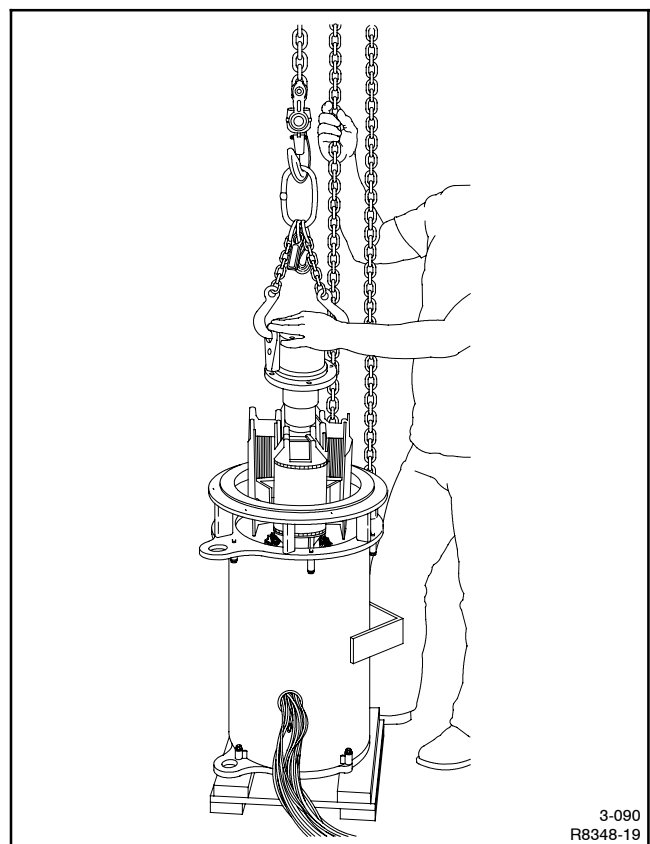

Figure 4-18 Installing Rotor
14. Suspend the rotor over the alternator assembly. Lower the rotor field into the stator. Be extremely careful while lowering the rotor to avoid damaging the photo transistor circuit board, exciter armature, field magnets, stator windings, or rotor laminations. See Figure 4-18. Carefully align rotor bearing into end bracket. Check for an outer race measurement of 6.35 mm (1/4 in.) from bracket to bearing. Make sure the photo transistor board and magnetic actuator have clearance below the end bracket.